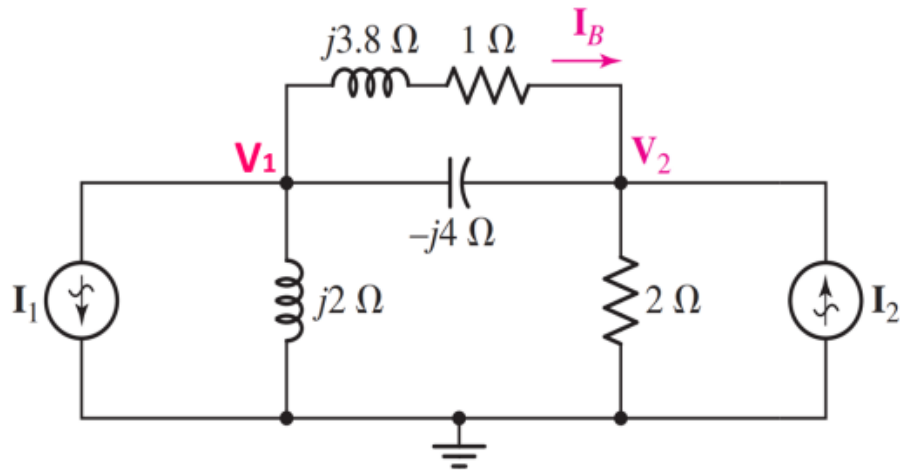

Figure 2: Circuit Schematic 2
1. An RLC circuit with a switch was implemented in Cadence, consisting of 2 resistors ($R = 1\Omega$ and $R = 2\Omega$ each), 2 inductors ($L = j3.8\Omega$ and $L = j2\Omega$ each), a capacitor ($C = -j4\Omega$), and 2 current sources as shown in Figure 2.